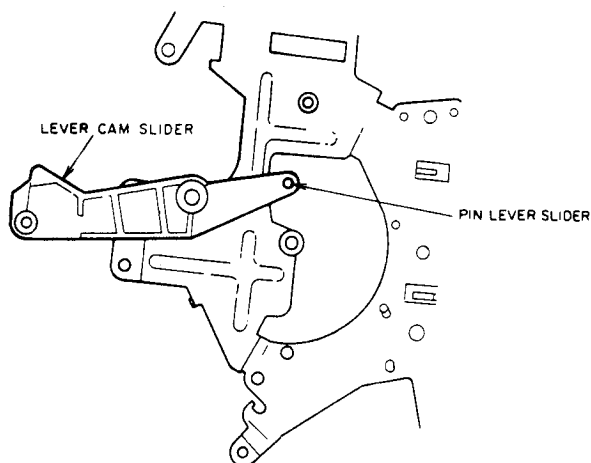

Fig. 4-13
- 4) Attach the LEVER CAM SLIDER as shown in Fig. 4-13.